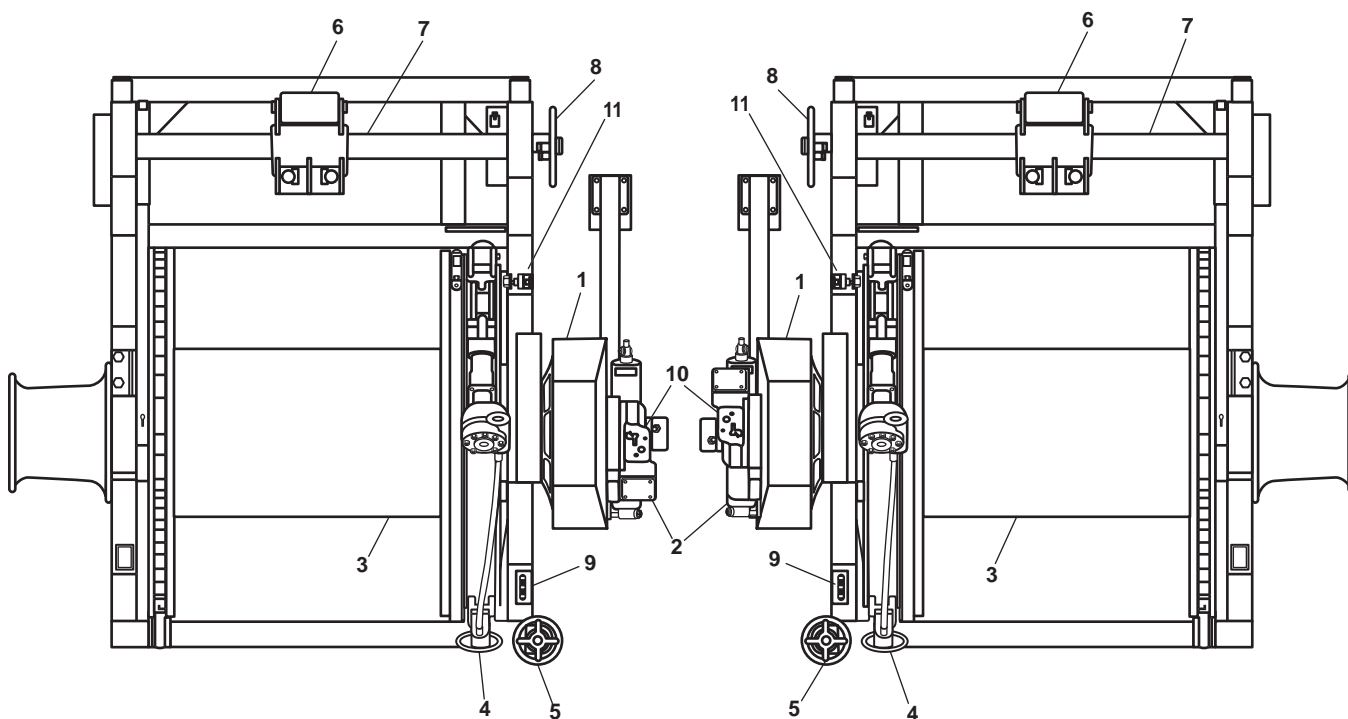
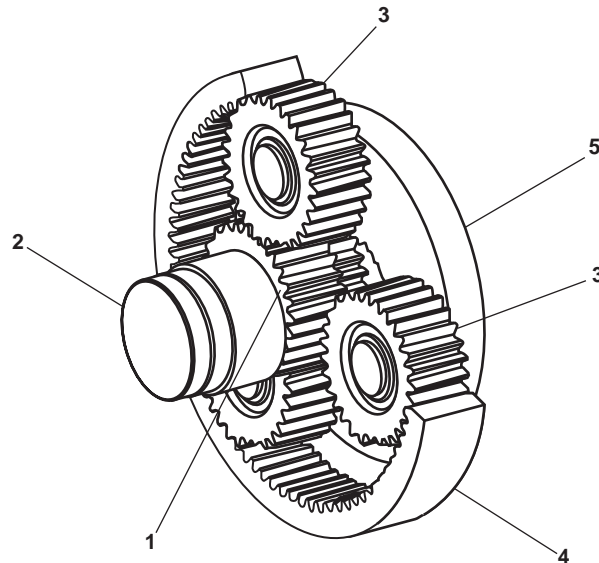
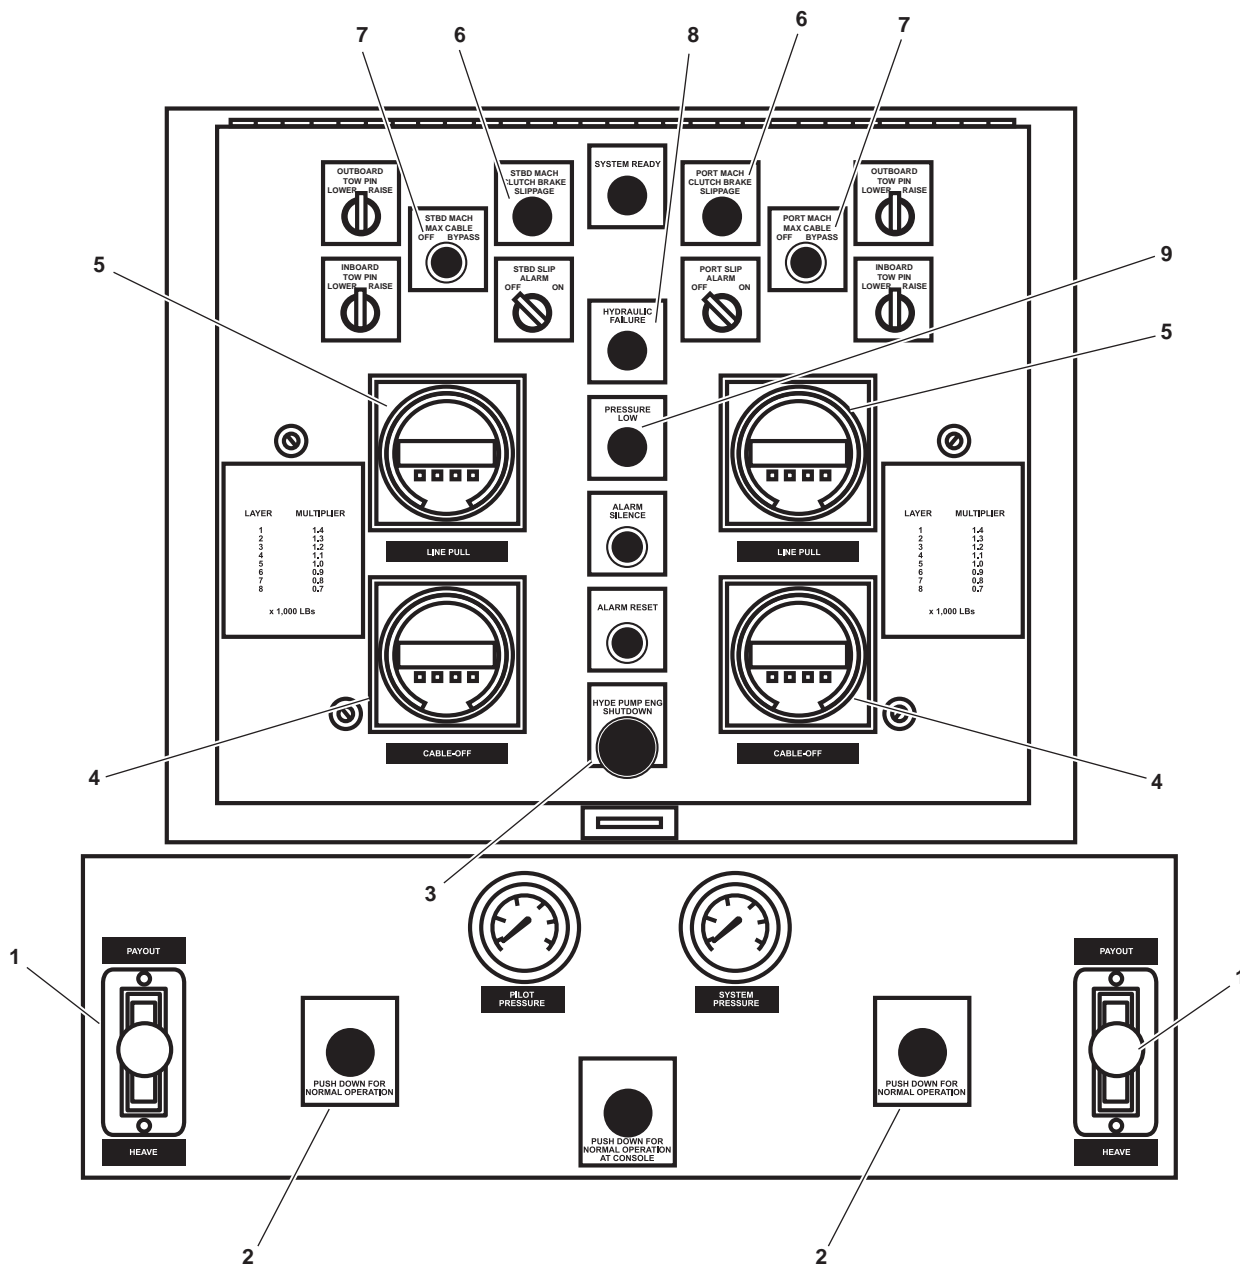

Figure 12. Towing Machine Mechanical Operation
Figure 13. Planetary Reduction Gear Operation
Figure 14. Towing Machine Control Panel (Operator), 01 Level
Under operation under usual conditions, the towing machines are powered by the towing machine hydraulic system. Hydraulic fluid flows to and from the towing machines (figure 5, sheet 1, item 14; figure 5, sheet 2, item 15) by the supply (figure 5, sheet 1, item 19) and return (figure 5, sheet 2, item 20) lines. Once at the towing machines, the hydraulic flow is controlled by the manually operated local controls, or by solenoid operated remote control valve. Hydraulic power operates the hydraulic motors (figure 12, item 1) and the hydraulic brake cylinders (figure 5, sheets 1 and 2, item 21; figure 12, item 2). All other operations are controlled mechanically.
When the manual or remote control valve directs hydraulic flow to the hydraulic motor (figure 12, item 1), pressure is also applied to release the hydraulic brake cylinders (figure 5, sheet 1, item 21; figure 12, item 2). The main shaft then rotates in the desired direction as decided by the direction of hydraulic fluid flow. If the operator desires the drum (figure 12, item 3) to rotate when the main shaft rotates, the clutch band brake must be applied. See the paragraph below for an explanation of this brake.
In addition to the hydraulic braking described above, both a clutch band brake and an auxiliary brake assembly are installed. The clutch band brake is operated by the outboard control handle (figure 12, item 4) and the auxiliary (figure 12, item 5) brake is operated by the inboard control handle. The auxiliary brake provides primary braking for the drum (figure 12, item 3). It brakes nothing else. The clutch band brake's primary function is to lock the drum to the main shaft. Its secondary function is as a brake for the drum.
In order to lock the drum (figure 12, item 3) to the main shaft, the clutch brake lining acts on the surface of the outer (orbit) gear assembly of a planetary reduction gear. When the sun gear (figure 13, item 1), which is attached to the main shaft (figure 13, item 2) rotates, the planet gears (figure 13, item 3) rotate, too. If the orbit gear (figure 13, item 4) is held stationary, in this case by the clutch band brake, the carrier (figure 13, item 5) will rotate in the same direction as the main shaft, but at a lower speed. In the towing machine, the carrier is attached directly to the drum (figure 12, item 3), so carrier rotation equals drum rotation. If the main shaft is held stationary by the hydraulic brake, the clutch band brake acts as a drum
During certain operating modes, for example use of the gypsy heads, the drum (figure 12, item 3) must remain stationary while the main shaft rotates. The auxiliary brake (figure 12, item 5) secures the brake drum during these operations. This braking action is accomplished by pulling a friction-lined brake band tight against the outer diameter of the drum.
A level wind assembly (figure 12, item 6) is provided on each towing machine. The level wind assembly is driven by a worm gear shaft (figure 12, item 7) that rotates in response to drum (figure 12, item 3) rotation. This assembly helps to ensure that the wire rope always winds evenly onto the drum. Alignment and adjustment of the level wind assembly is accomplished with the adjusting wheel (figure 12, item 8).
Primary control of the towing machines is from the towing machine control panel (operator) on the 01 level aft. This operating location places the operator safely away from the towing machines and wire ropes during towing operations. The local control stations (figure 12, item 9) are provided only for emergency or maintenance operation.
Towing machine main shaft rotation is controlled by the PAYOUT/HEAVE lever (figure 14, item 1). This lever controls a solenoid-operated valve which, in turn, controls the flow of hydraulic fluid to the hydraulic motor (figure 12, item 1).
Two speed control for the towing machine hydraulic motor (figure 12, item 1) is controlled by the speed control switch (figure 14, item 2). This switch energizes and deenergizes a solenoid-controlled pilot valve that shifts the hydraulic motor between low and high speed.
Remote shutdown of the pump drive engine is controlled by the HYDRAULIC PUMP ENGINE SHUTDOWN switch (figure 14, item 3). When CLOSED, this switch enables pump drive engine operation. When OPEN, the pump drive engine and central hydraulic power unit are both shut down.
Each towing machine is provided with a CABLE OFF indicator (figure 14, item 4) that also stops the central hydraulic motors. This indicator receives input from a worm gear-driven sensor (figure 12, item 10). This sensor measures drum (figure 12, item 3) rotation and converts this rotation into feet of cable payed off. The sensor input is directed through the
A LINE PULL meter (figure 14, item 5) is also installed for each towing machine. This meter measures the amount of strain present on the wire rope. This meter receives its input from a torque strain sensor mounted on the towing machine's main shaft. The sensor input is directed through the towing machine control panel mounted on the starboard bulkhead of the main deck vestibule. There the input is analyzed and output to the line tension meter.
It is important for the operator to know if the clutch brake is slipping. Clutch brake slippage means that additional cable is paying off the drum, causing a potential for trouble. To alert the operator to clutch brake slippage, a CLUTCH BRAKE SLIPPAGE alarm (figure 14, item 6) is installed. When excessive slippage occurs, the alarm sounds a warning horn and
illuminates a light on the towing machine control panel (operator) on the 01 level. A similar alarm indicator is also installed in the pilothouse. The alarm operates by means of a proximity switch (figure 12, item 11). When a hub member passes close by the proximity switch, the switch closes. When the hub member passes away, the switch opens. The signal from this switch is routed to the towing machine control panel mounted on the starboard bulkhead of the main deck vestibule. There the input is analyzed and when the signal reaches the predetermined limit for excessive slippage, the alarm light is illuminated, and the alarm horn sounds.
Operating with too little cable on the drum can cause loss of the tow cable. To prevent this, a maximum cable OFF shutdown is installed. When the cable OFF indicator system indicates that less than 300 feet (91 meters) of cable remains on the drum, the payout function of the towing machine is disabled and the STBD or PORT MACH MAX CABLE OFF BYPASS pushbutton indicator (figure 14, item 7) illuminates. This function operates by deenergizing the solenoid operated directional control valve that controls the paying out of the tow cable. If it is desired to pay off cable beyond the automatic cutoff point, the operator can press the STBD or PORT MACH MAX CABLE OFF BYPASS pushbutton indicator to bypass the cutoff.
The operator is alerted to the presence of towing machine hydraulic system faults (low hydraulic fluid level, high hydraulic fluid temperature) by an indicator light (figure 14, item 8) and alarm horn. The alarm is indicated at the towing machine control panel (operator) and in the pilothouse. These alarm conditions are activated by Normally Open (NO) switches for hydraulic fluid level and hydraulic fluid temperature. When the hydraulic fluid level falls too low or its temperature rises too high, the appropriate switch closes, and the alarm is activated.
A similar alarm is activated when the system hydraulic fluid pressure falls too low. This alarm also lights a lamp (figure 14, item 9) and sounds the horn when the Normally Open (NO) system hydraulic fluid pressure switch closes.